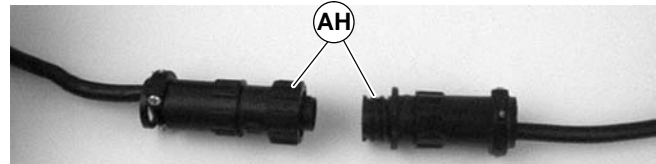

Figure 18
3. For DC variable speed motor, unplug motor cord at disconnect (AH of Figure 18).